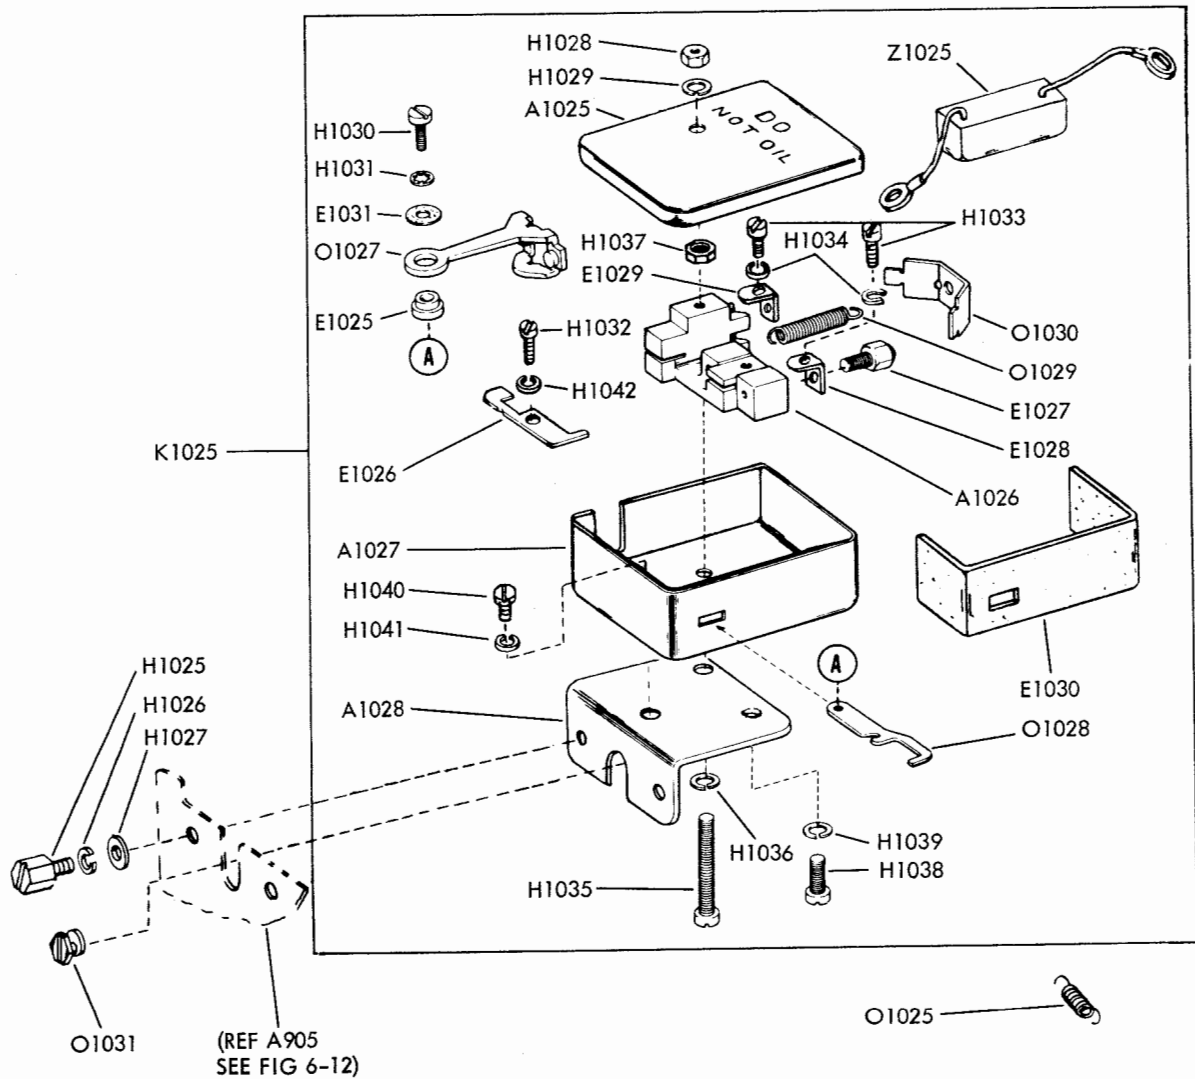

Figure 6-15. Distributor-Transmitter, Contact Box Assembly
(7) CONTACT BOX ASSEMBLY. (See figure 6-15.) — Remove the cover plate (paragraph 6-3d(1)).
(d) Disassembly of the contact box is shown in figure 6-15.